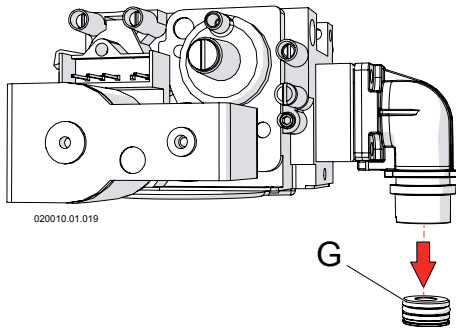

Figure 13-5 Gas orifice
- 7 - Replace orifice "G" of Figure 13-5, for the correct one for type of gas used. Verify that the stamping on the orifice matches the Figure 13-7;